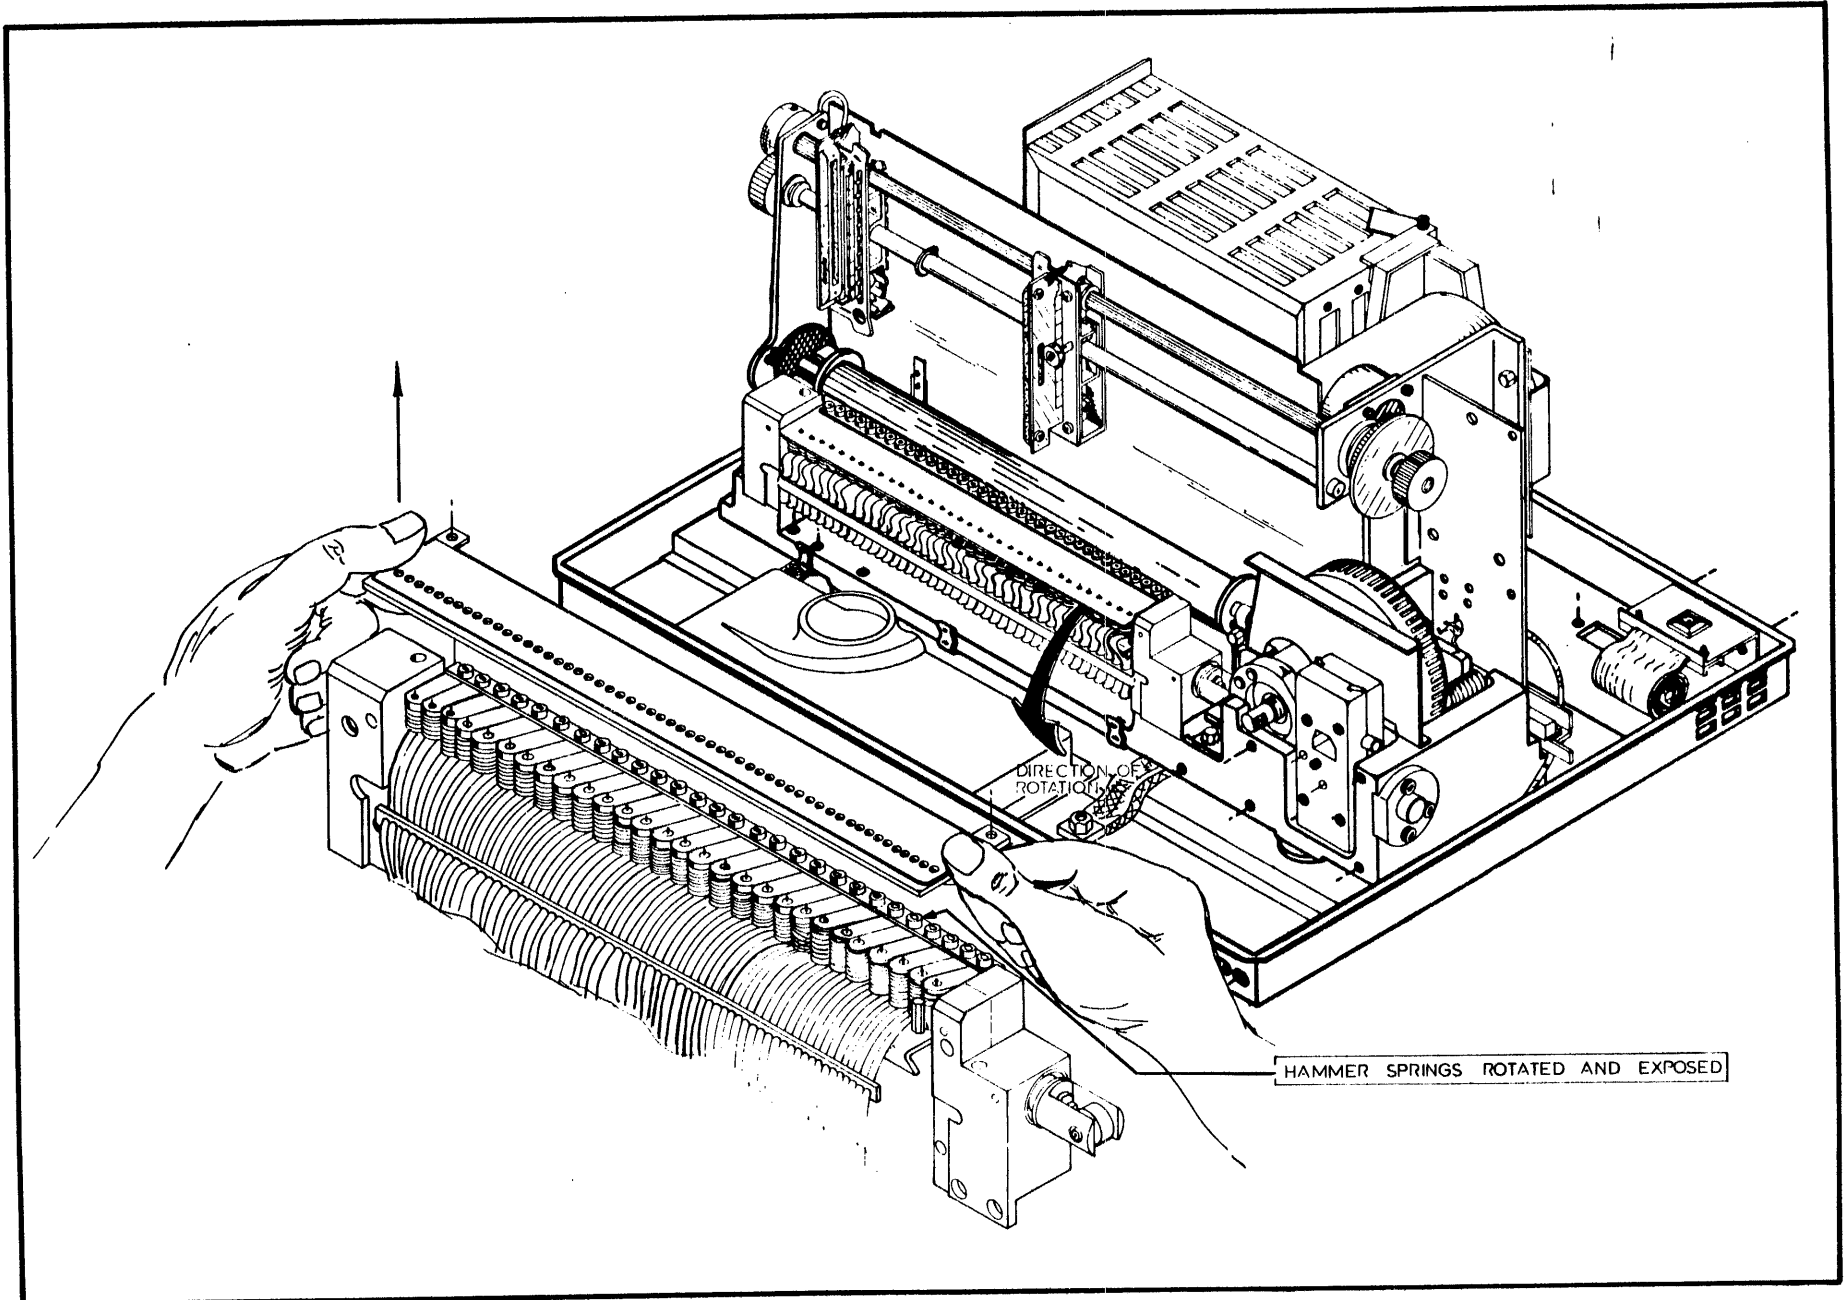

Figure 88 Removing the Hammer Bank Cover Assembly
- g. Carefully lift the ends of the Hammer Bank Cover Assembly from the roll pins in the shuttle and lift it out (**Figure 88**). Because the assembly will tend to stick to the magnetized shuttle, be careful not to bend it at the roll pins.